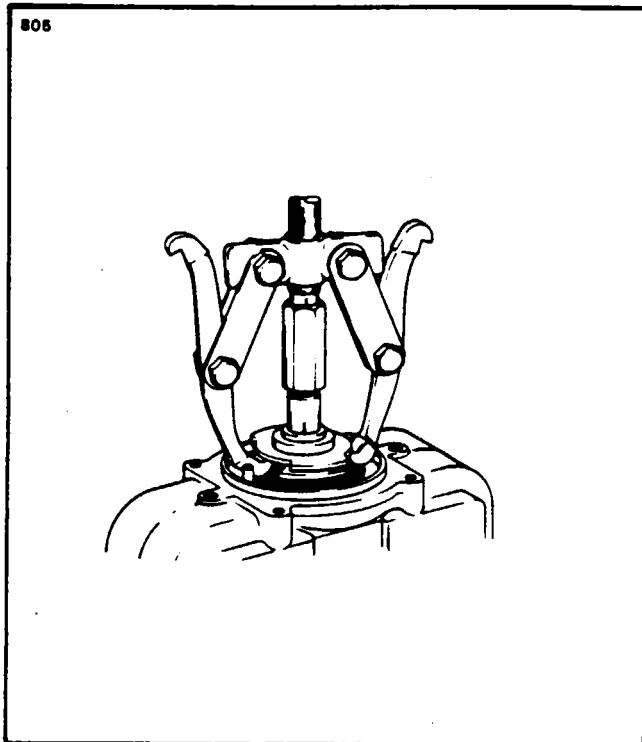

Figure 74-10. Removing Impulse Coupling
3. Thread protective cap of 11-702-1 puller securely on end of shaft. Engage puller over protective cap and cam assembly with wide jaws of puller hooked under cam assembly as shown in Figure 74-10.